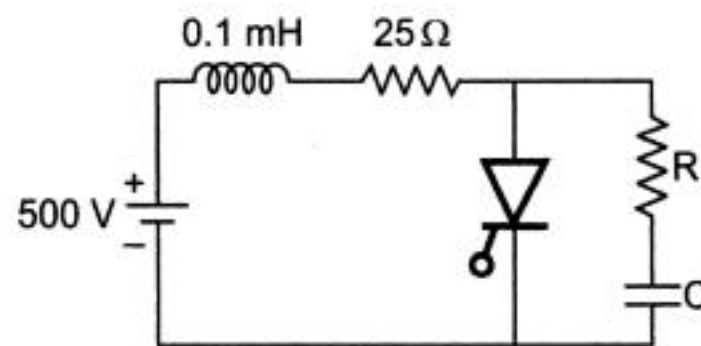

Fig. 2.11.5
►►► **Example 2.11.9 :** Calculate the values of snubber components R and C in Fig. 2.11.5 to protect SCR from reapplied dv/dt , if dv/dt rating of SCR is $100 \text{ V}/\mu\text{sec}$.